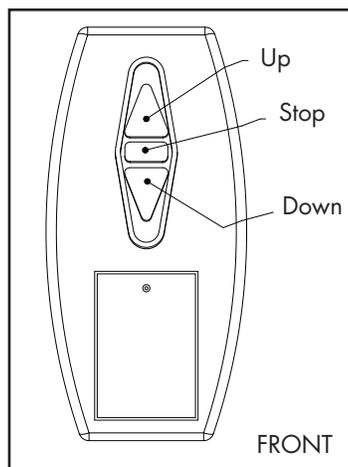

Figure 3.2 - Standard Remote
- Button options include Up, Down, and Stop (*Figure 3.2, 3.3*)